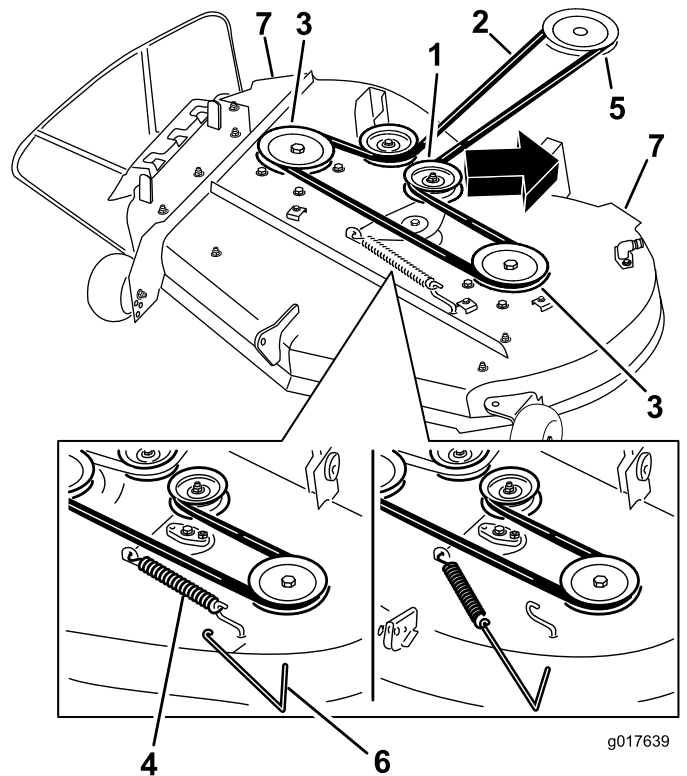

Figure 56
5. Using the mower deck handles, lift the mower deck and hanger brackets clear of the rear lift rod and lower the mower carefully to the ground (Figure 55 and Figure 56).
4. Using a spring removal tool, (Toro part no. 92-5771), remove the idler spring from the deck hook to remove tension on the idler pulley and roll the belt off of the pulleys (Figure 56).
5. Route the new belt around the engine pulley and mower pulleys (Figure 56).
6. Using a spring removal tool, (Toro part no. 92-5771), install the idler spring over the deck hook and placing tension on the idler pulley and mower belt (Figure 56).